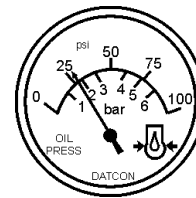

Figure 43. Oil Pressure Gauge
11. The engine oil pressure gauge (Figure 43) will indicate the oil pressure (kg/ cm²) of the engine. Under normal operating conditions the oil pressure should be approximately 25 psi.